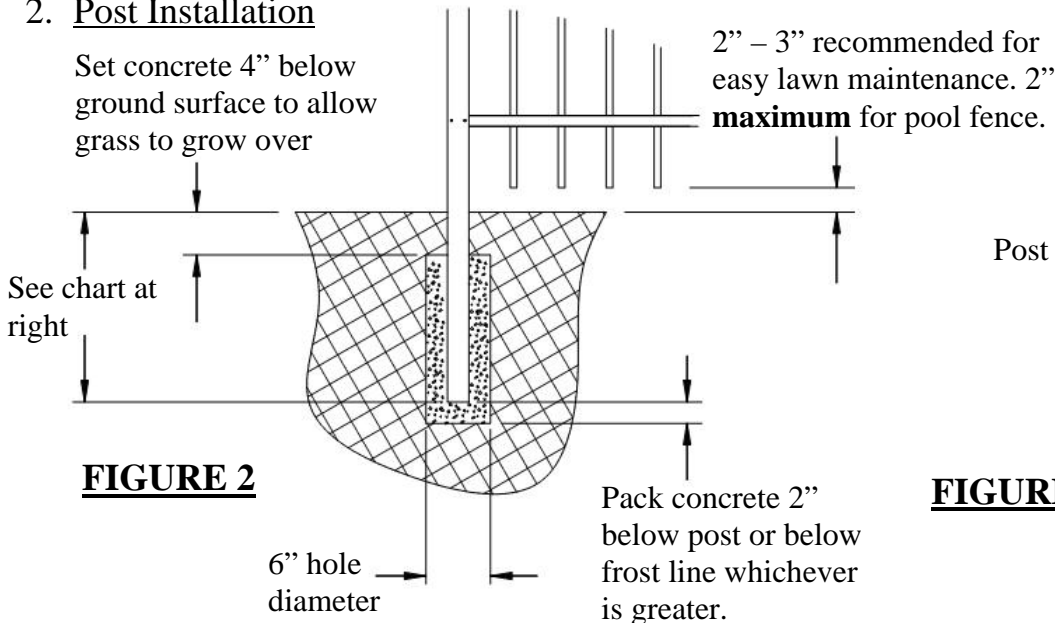

FIGURE 2
- 1.2. Proceed to dig post holes approximately 3" to 4" wider than the gate on centers. See Figure 2 (on next page) for post hole depth.
- 3.1. After the concrete for the post has set the gate may be hung. Place the gate on blocks at the correct elevation (See figure 2 above).